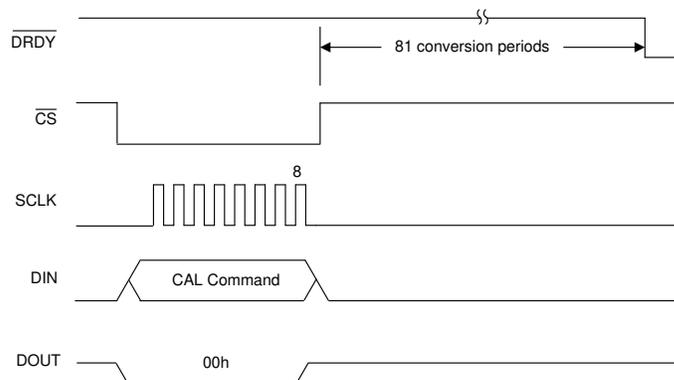

图 7-21. Calibration Command
- OFSCAL command. After the command is sent, $\overline{\text{DRDY}}$ is driven low 81 conversion periods later to indicate calibration is complete. The OFFSET register is updated with the new calibration value. As shown in 图 7-21, the first data output uses the new OFFSET value.
- GANCAL command. Apply a positive dc full-scale calibration voltage. After the command is sent, $\overline{\text{DRDY}}$ is driven low 81 conversion periods later to indicate calibration is complete. The ADC calculates GAIN such that the full-scale code is equal to the applied calibration signal. As shown in 图 7-21, the first data output uses the new GAIN value.